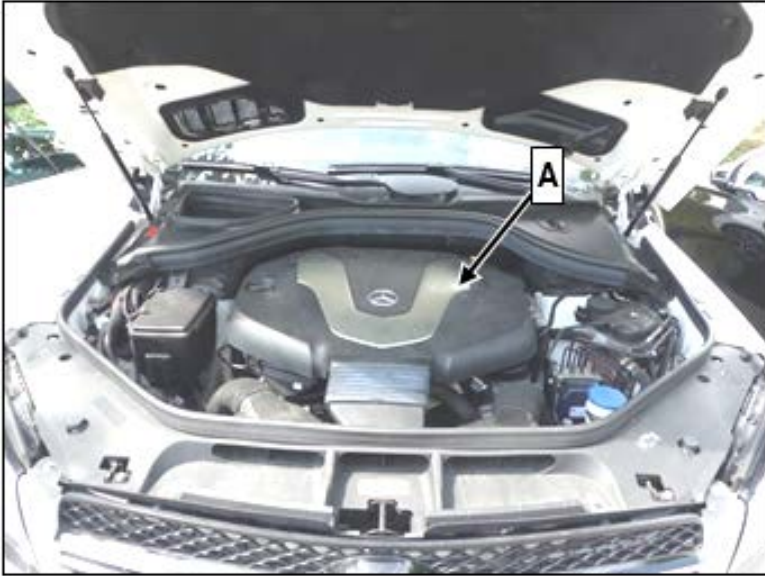

Figure 1 (shown with model 166)
1. Remove engine cover (A, figure 1).